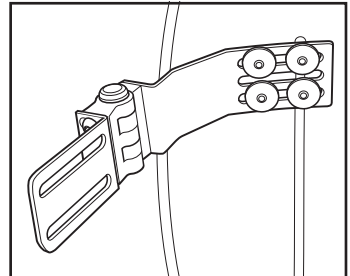

Fig. 5
- a. **When mounting to the back shell**, use four (4) ¼-20 x .375 cap screws and four (4) anti-rotation nuts. Fig. 5